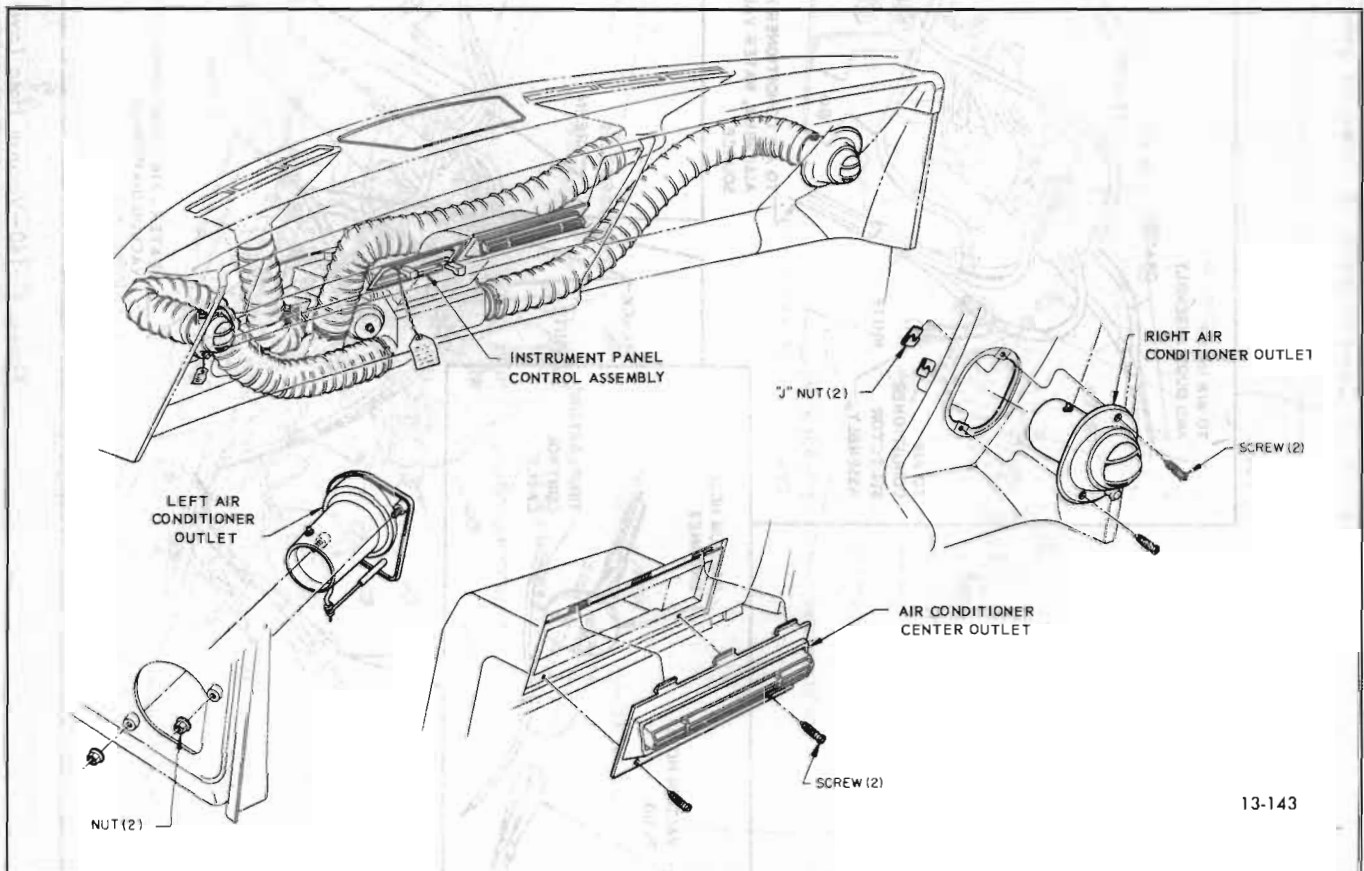

Figure 13-141—Installation of Air Conditioner Outlets (49000 Series)
2. Remove two screws securing a/c center outlet to instrument panel, take off outlet and pull out plastic center outlet duct. See Figures 13-141 and 13-142.